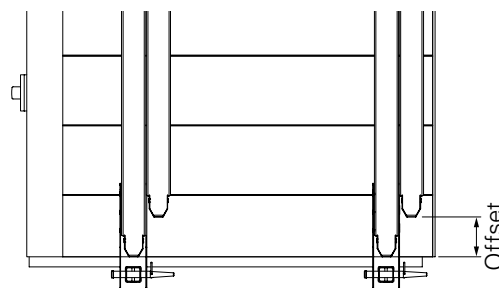

Fig. B5.04a
- If the girders are only slightly moved to each other, secure the Guardrail Post Holder Multi (94) before installing the girder. Otherwise screw and bolt holes can be covered. (Fig. B5.04a)